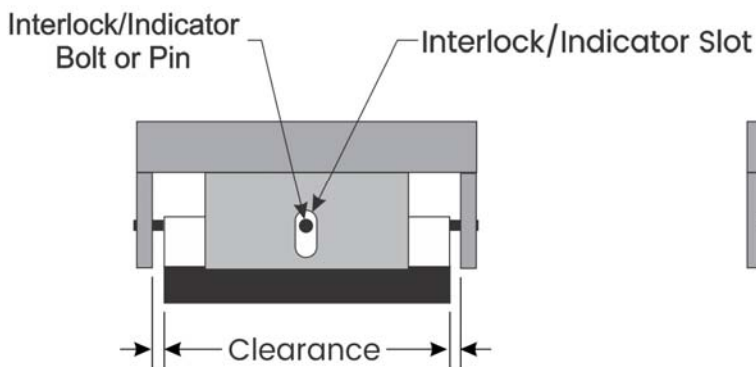

Figure 3A
2. MXL and HXL isolators are equipped with four Interlock/Indicator bolts. These serve as a quick check for centering the resilient cushion. The Interlock/Indicators should be centered side-to-side in the interlock slots as shown in Figure 3A. If the resilient cushion is not centered, the Interlock/Indicators appear as shown in Figure 3B.